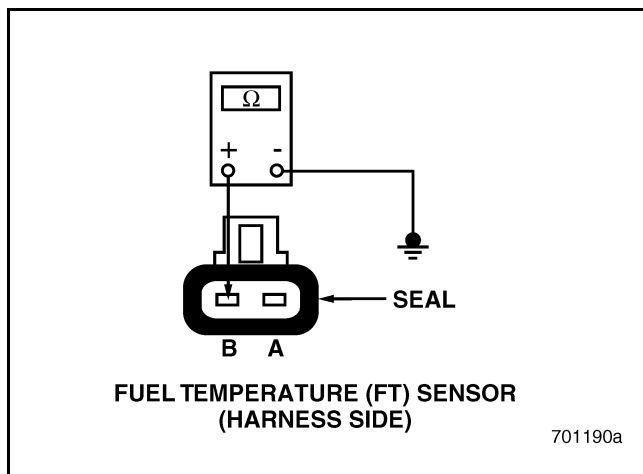

Figure 53
4. Check for continuity between pin B of the FT Sensor harness connector and a good ground (see Figure 53).